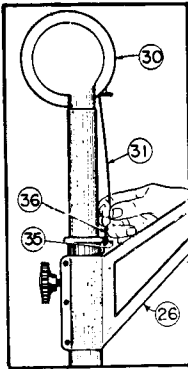

Figure 6
11. To assemble the counter-balance (30) push the mounting bracket of the counter-balance into the top of the post (34) so that it is in the position shown in Figure 6. Pull down the link (36) which is on the end of the metal tape, and hook it to the stud (35) on top of